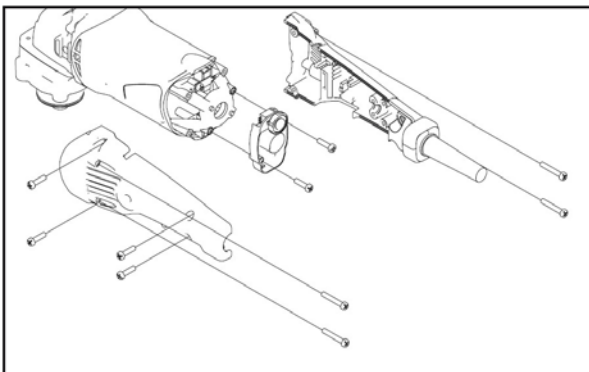

Fig. 9: Open housing
Step 2: Carefully unscrew the 8 screws (Fig. 9) for disassembling the two handle halves and remove the left handle half first. Make sure that the cables are not damaged.